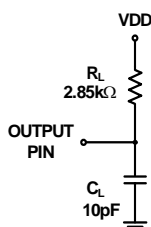

FIGURE 4. EQUIVALENT LOAD CIRCUIT
9. During characterization, $t_{DISABLE}$ is measured from the release point with a 10pF load (see Figure 4) and the equivalent timing using the AD7440/450A loading (25pF) is calculated.